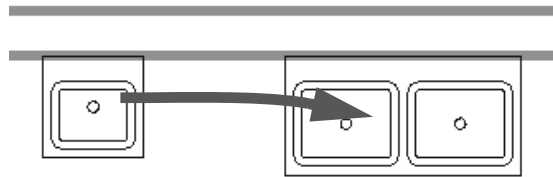

Figure 2–71
5. Where do you change the type for a selected plumbing fixture, as shown in Figure 2–71?